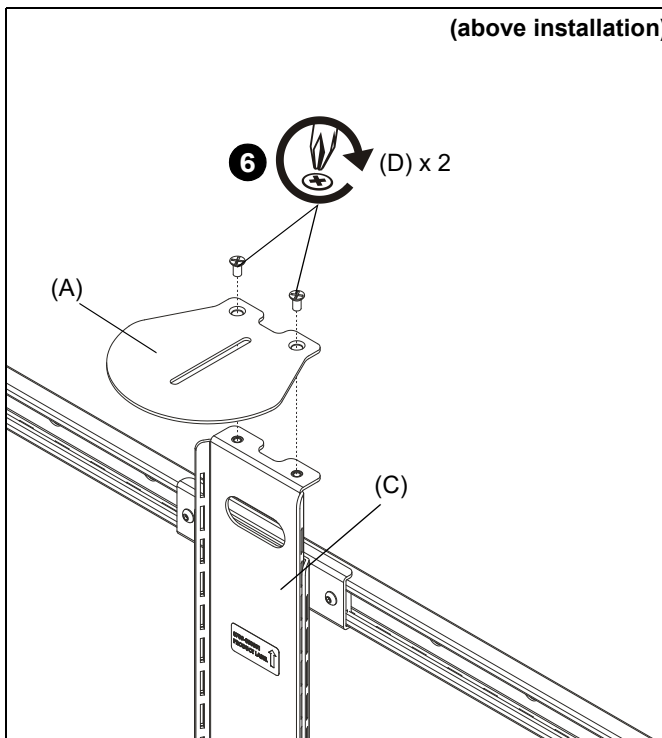

Figure 6
**NOTE:** If installing a camera requiring adapter bracket (B), proceed to Step 7.
6. Use two 1/4-20 x 1/4" Phillips flat head screws (D) to secure camera shelf (A) to height-adjustable bracket (C). (See Figure 6)